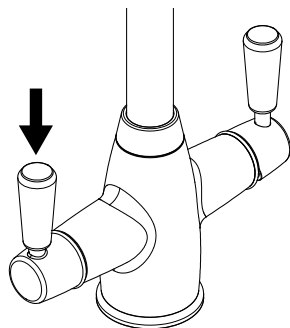
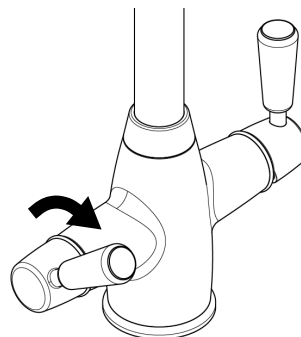

Fig 2.
Fig 3.
- Hot (boiled) filtered water Slide the hot (boiling) button across horizontally (Fig. 2) and then simultaneously turn the handle backwards (Fig. 3), the further backwards the handle is turned the greater the flow. It is normal for the hot water to take a moment to start and stop dispensing as the water empties from the product after use.